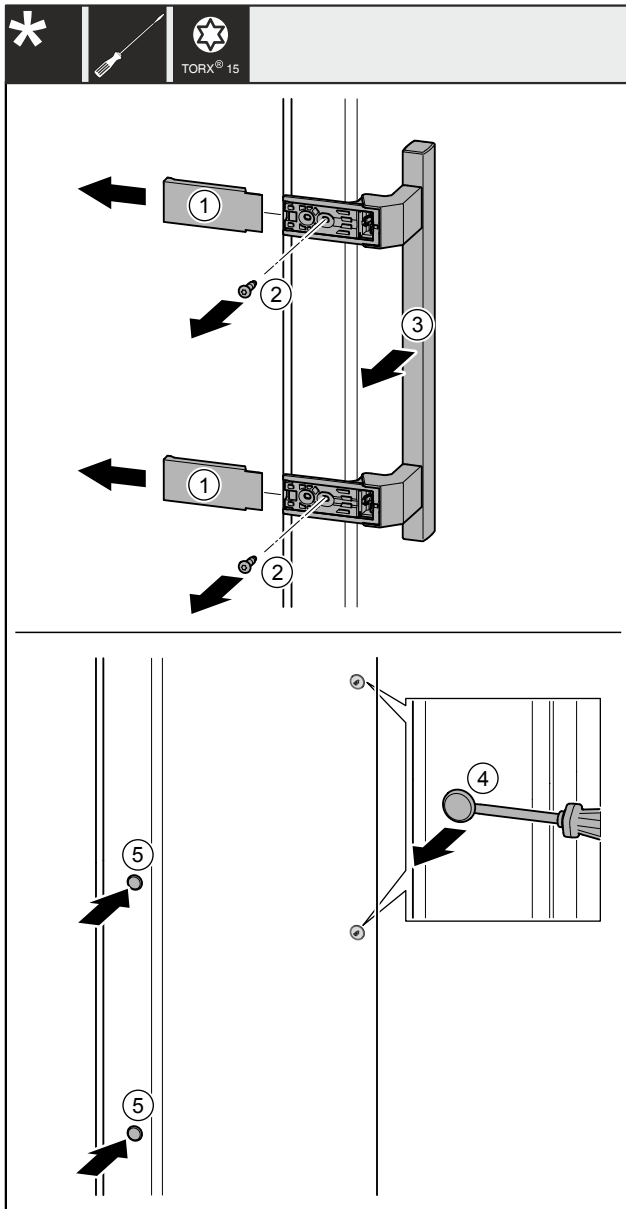

Fig. 31
- ▶ Pull off the covers. Fig. 31 (1)
- ▶ Turn out the screws Fig. 31 (2) with the screw driver.
- ▶ Remove the handle Fig. 31 (3).
- ▶ Carefully lift the side plug Fig. 31 (4) with a slotted screwdriver and pull it out.
- ▶ Reinsert the plug Fig. 31 (5) on the other side.